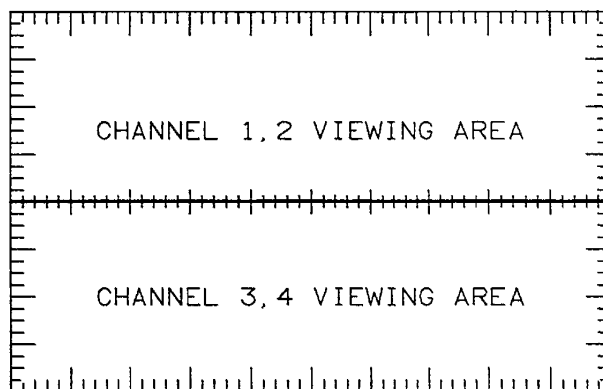

Figure 3-31. Dual Screen Display
- 2: the display area is divided into two screens. Channels 1 and 2 will be displayed in the top screen and channels 3 and 4 will be displayed in the bottom screen (See figure 3-31).